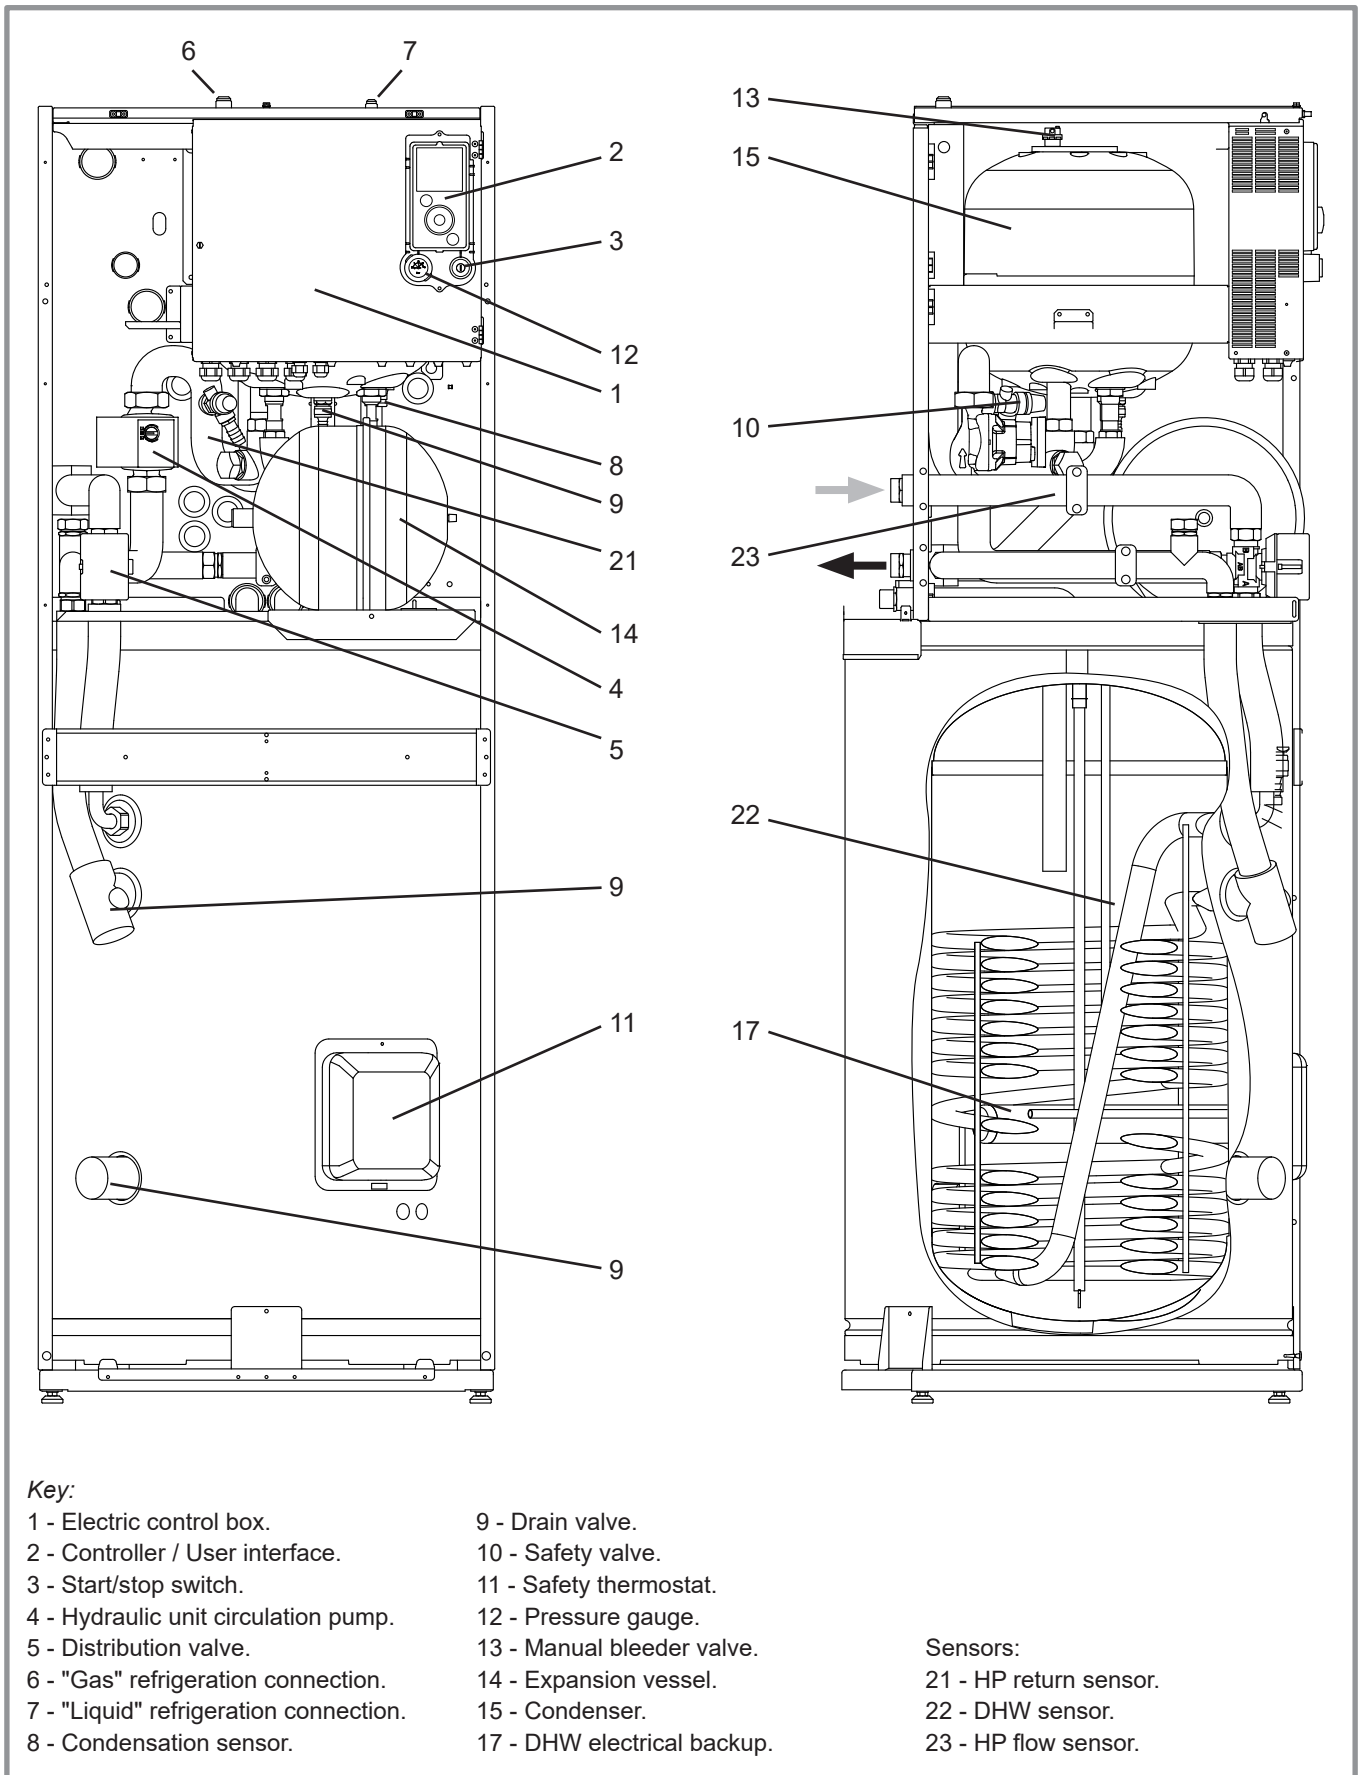

figure 9 - Hydraulic unit components
- In the condenser (ref. **15**, figure 9): The energy of the refrigerant is transmitted to the heating circuit. The refrigerant returns to its liquid state.